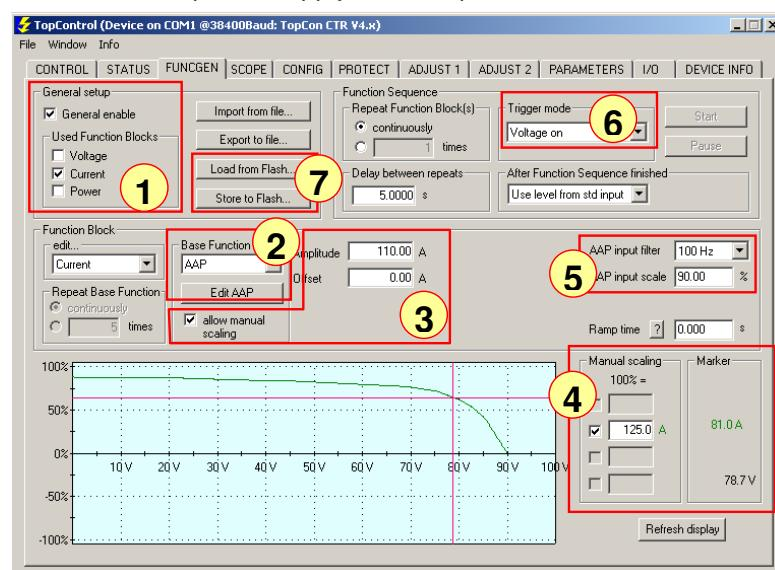

Fig. 19 Overview of the settings for the AAP mode in the function engine
- The function engine must be operated in the AAP mode (for settings see Fig. 19).
- (1) Set the required function block for SAS:  $I = f(V)$  characteristic